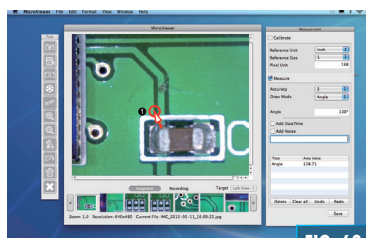

FIG. 63
6. Click the mouse button at the first point. (Fig. 63)